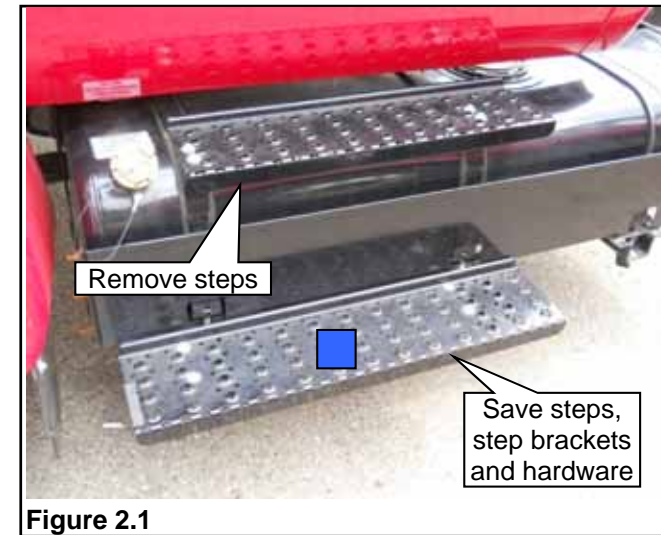

Figure 2.1
2. Remove the steps from the fuel tank. **Figure 2.1.** **Note:** Save all steps, step brackets and mounting hardware for use on the new propane fuel tanks. Additional steps, brackets and hardware can be found in the step kit P13FB-02H100-A/B/C/D/E/F/G for the vehicle model you are working on.